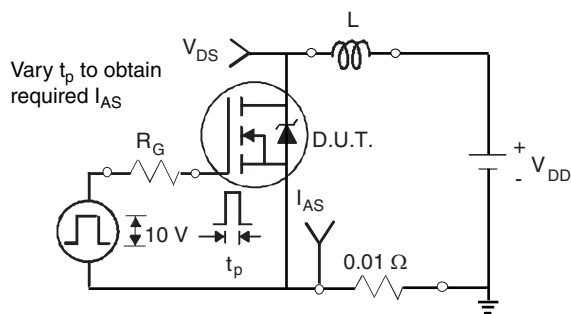

Fig. 13 - Unclamped Inductive Test Circuit
- $V_{DD} = 25\text{ V}$, starting $T_J = 25\text{ }^{\circ}\text{C}$, $L = 541\text{ }\mu\text{H}$, $R_g = 25\text{ }\Omega$, $I_{AS} = 14\text{ A}$ (see fig. 13).